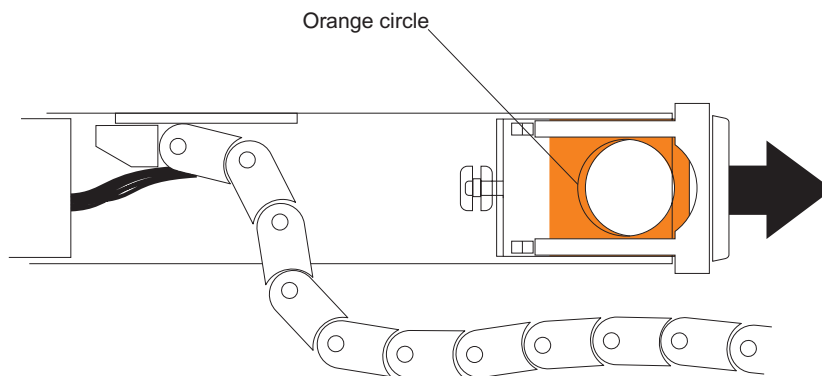

Figure 89. Horizontal mounting bracket that connects to the drive drawer
- d. Disconnect the right cable chain mounting bracket from the drive drawer. Hold the orange handle (see Figure 89), and pull the mounting bracket completely out of the drive enclosure. Remove the right cable chain.